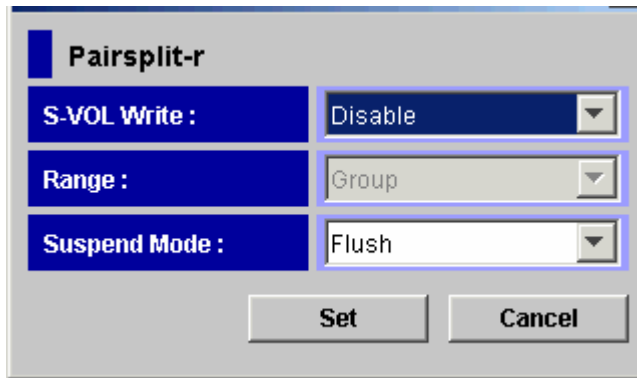

Figure 6-6 Pairsplit-r Dialog Box
7. In the Pairsplit-r dialog box (Figure 6-6), specify parameters and then select **Set**.